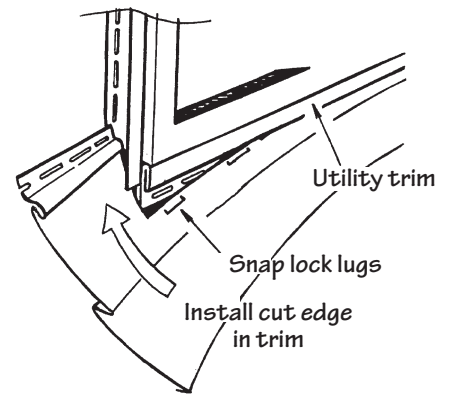

Figure 42.
- Install the siding panel, making sure the lugs (from the snap lock punch) lock into the utility trim (Fig. 42).